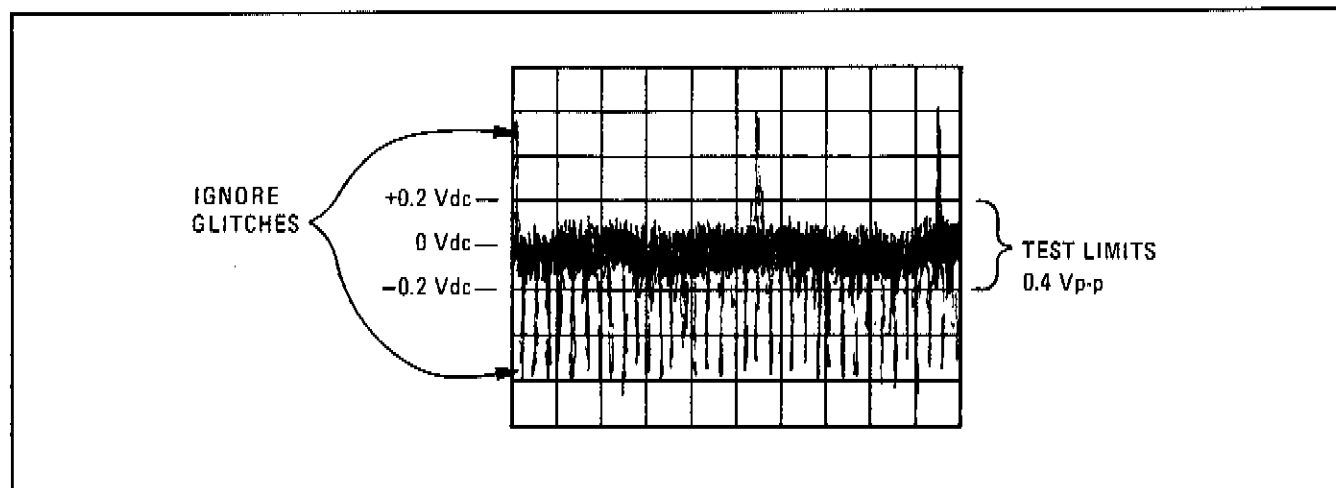

Figure 5-12. N-Loop Phase Error Signal Waveform (Adjusted correctly at $0 \pm 0.2V$)
3. Connect the Generator's SWEEP OUTPUT to the oscilloscope's Y input. If the A3A4 board is on an extender, connect A3A4TP8 to the oscilloscope's X input. Test point A3A11TP2 on the bottom of the Generator can be used, instead of A3A4TP8, if more convenient (see Figure 5-12).
4. Adjust POSITION (A3A4R1) and GAIN (A3A4R3) until the displayed phase error signal is $0 \pm 0.2V$ throughout the entire sweep (see Figure 5-12). If POSITION does not have enough range, change the value of A3A4R4 adjustment within the limits described in Table 5-1.